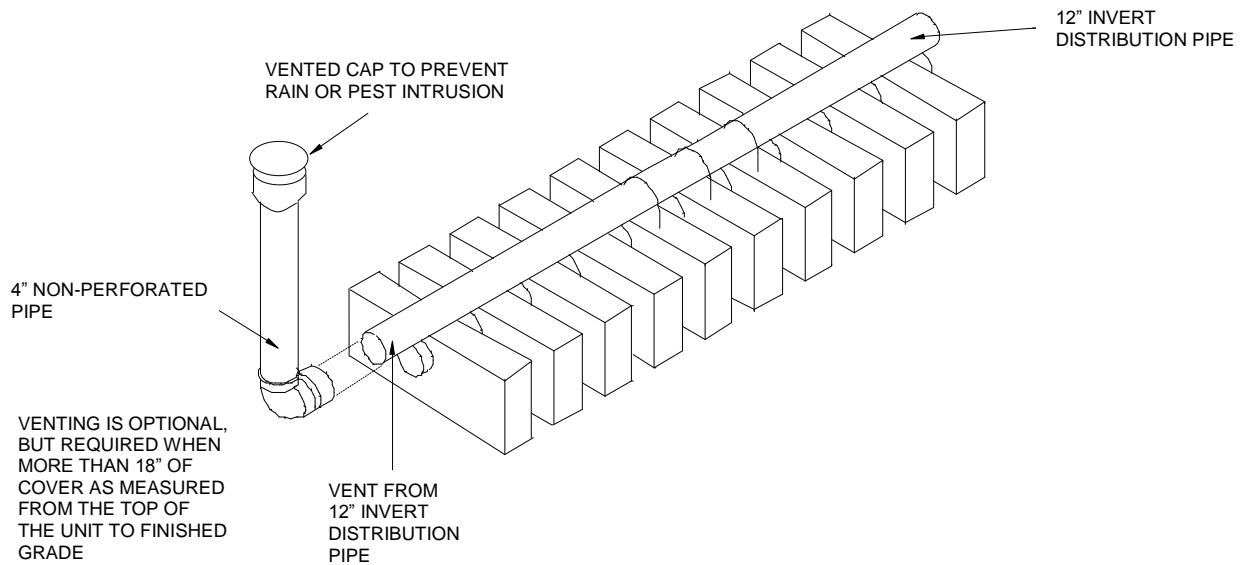

Figure 2
17. System Venting: Venting is optional, but required when the system will have more than 18" of cover material as measured from the top of the unit to finished grade. If required, at the distal (far) end of the 12" invert distribution pipe install a 90° fitting. Install a section of non-perforated pipe extended above final grade. Plumb to prevent rain water and pest intrusion from entering the system by using two 90° fittings or a mushroom cap fitting as shown in Figure 2.